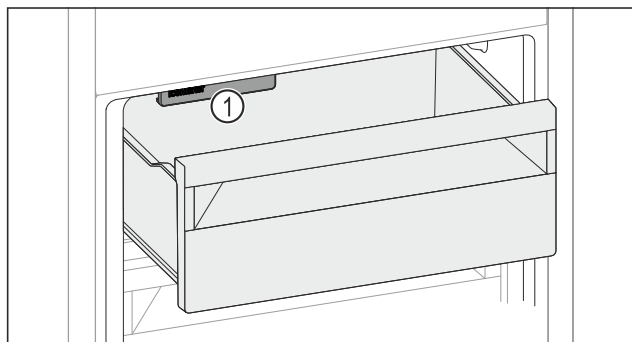

Fig. 235
- Watch out for the IceMaker Fig. 235 (1).